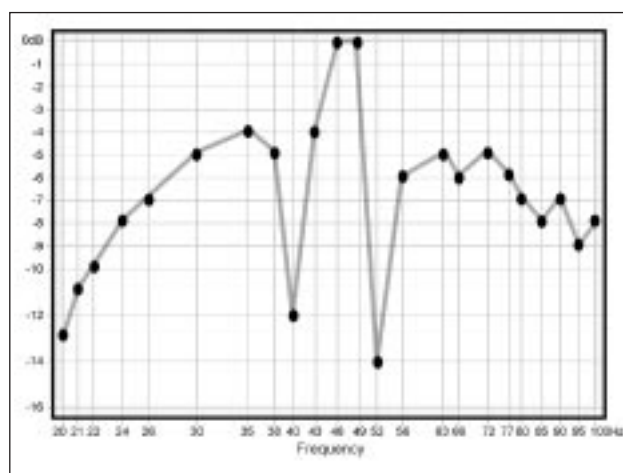

FIGURE 29
1. Select a new test position: Cue the test track corresponding to the center frequency of the dip. In the example in Figure 29 you would play Tracks 14 (52Hz) and 18 (40Hz). Press **Play** ▶. You will see a reading very close to what you had before. Now, slowly move the RSLM around the area, if possible remaining within about a foot of the original test point. As you move the RSLM, watch the bar graph. You will observe large level fluctuations. Find a location for the subwoofer or a test location that raises the response at these frequencies. You may find it helpful to move the RSLM vertically. Dips can be oriented in any axis. The position that restores the level to about that of the adjacent test points is your new test position.